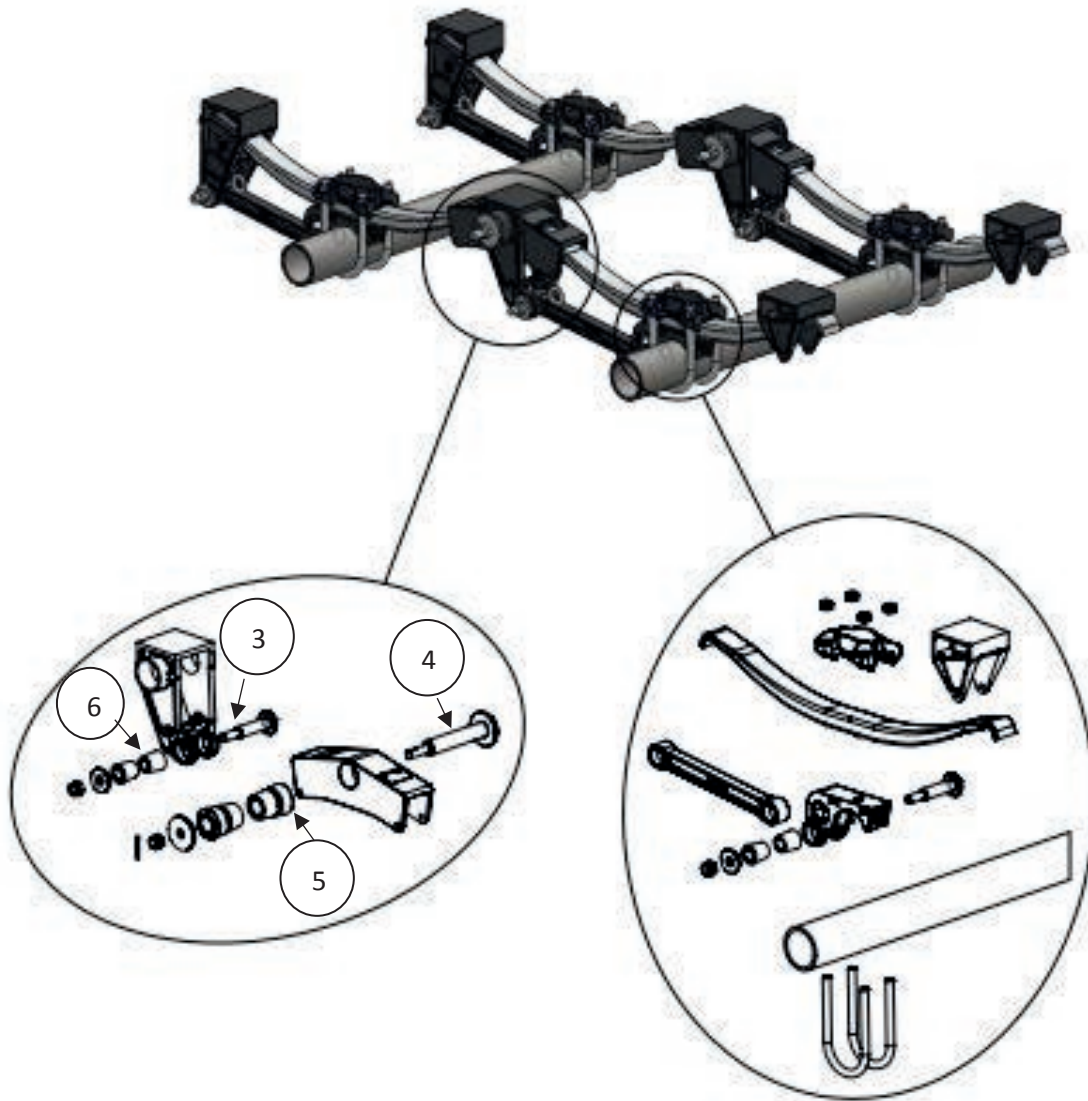

Figure 27 RSC and YSC Suspension Exploded View
In order to conduct this service please follow the following procedure whilst referring to Figure 27.
3. Ensure that the clamping bracket and the suspension bracket do not touch, these can be seen in Figure 26 below. If they do, replace the conical washer which is shown as No.6 in Figure 27.
Yearly maintenance checks of the RSC and YSC suspension is also required. The following procedure should be followed to achieve this, please refer to Figure 27 in conjunction with this procedure.